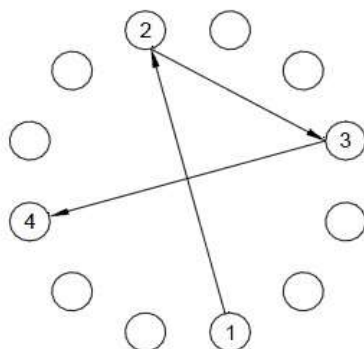

Fig.6. Initial Tightening
- Tighten the first four nuts in the sequence shown Fig.6. This helps in correct location of the mating parts.